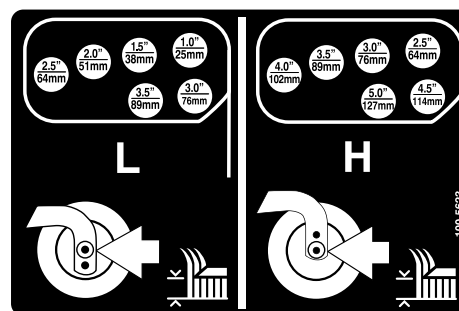

Figure 23
5. Rotate tension rod to raise or lower pivot arm until holes are aligned with selected height-of-cut bracket holes in the cutting unit frame (Figure 22 and Figure 23).